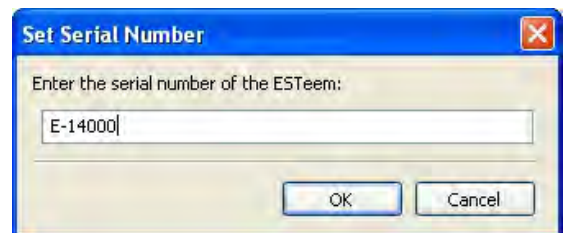
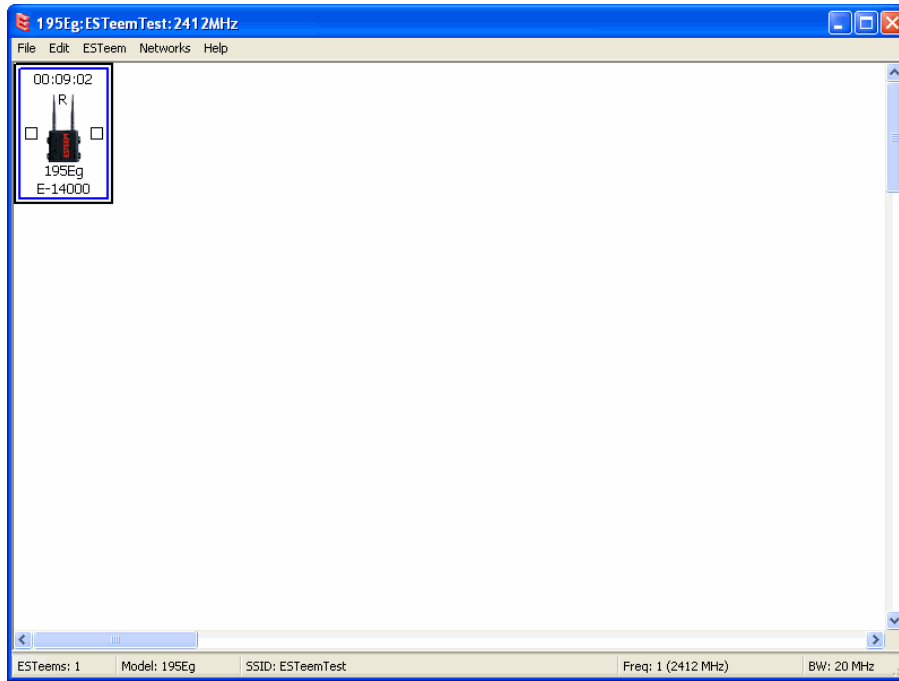

Figure 10: Enter the Serial Number
Figure 11: Main Office ESTEem 210
2. Enter in the ESTeem Model 210 serial numbers used for the example (for example enter E-14000 in the Set Serial Number Box) and press the OK button (Figure 10). The ENC Utility will look up the ESTeem 210's serial number in the database and match the correct Wireless LAN MAC (WLAN MAC) address to the modem. This WLAN MAC address will be displayed above the modem symbol on the screen (Figure 11).